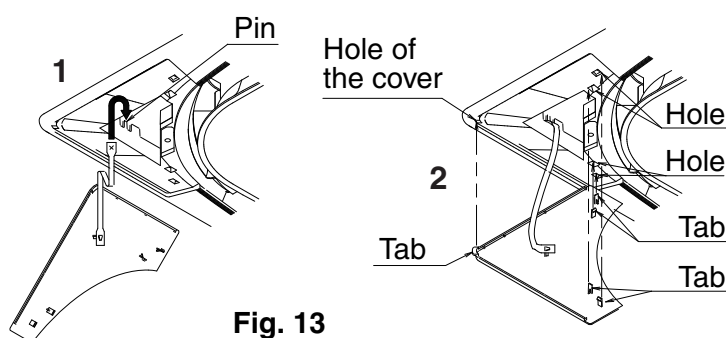

Fig. 13
- 1 Attach the strap of the corner section decoration cover to the pin of the decoration panel. **(Refer to Fig. 13)**